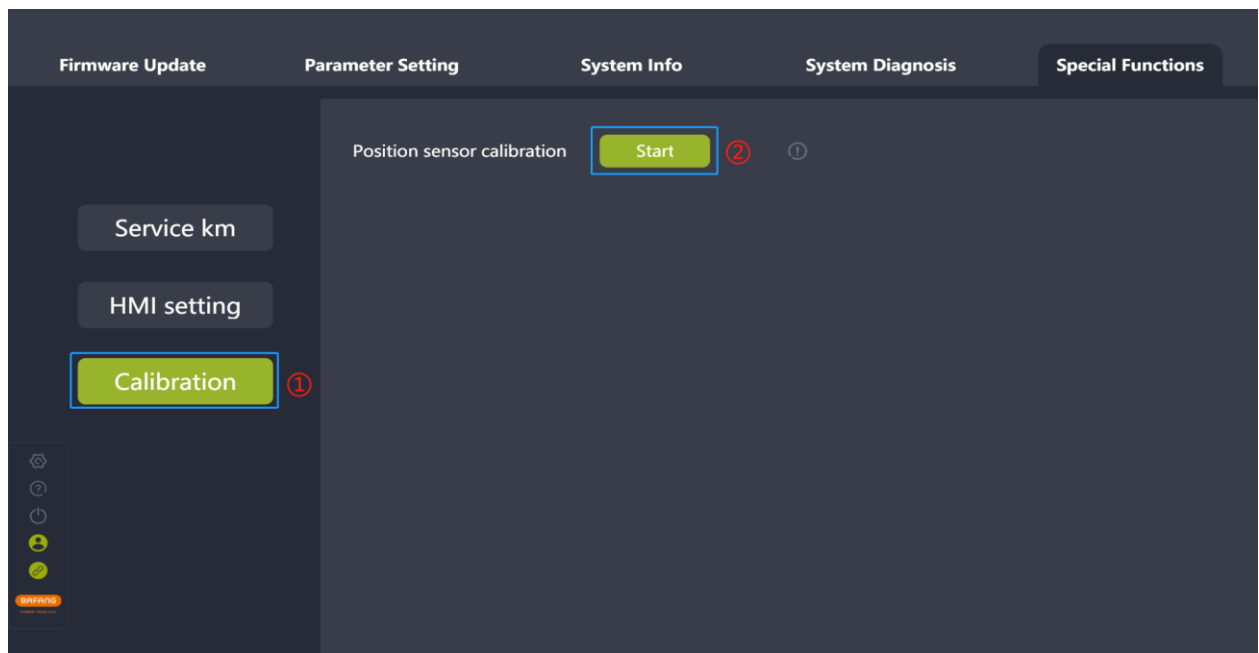

Fig. 8-5 Position sensor calibration
- (1) Connect the BESST Tool to the controller and select the “Calibration” icon.
- (2) Click the “Start” icon next to the tag “Position sensor calibration” to start the position sensor calibration (Fig.8-5).